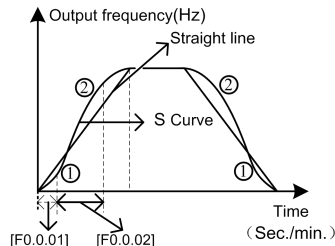

Figure 7-21 Acceleration and deceleration curve
As shown in item ① in Figure 7-21, the acceleration starting/deceleration ending period of S curve is indicated by the percentage of the total acceleration and decoration time.
As shown in item ② in Figure 7-21, the acceleration rising/deceleration decreasing period of S curve is indicated by the percentage of the total acceleration and decoration time.